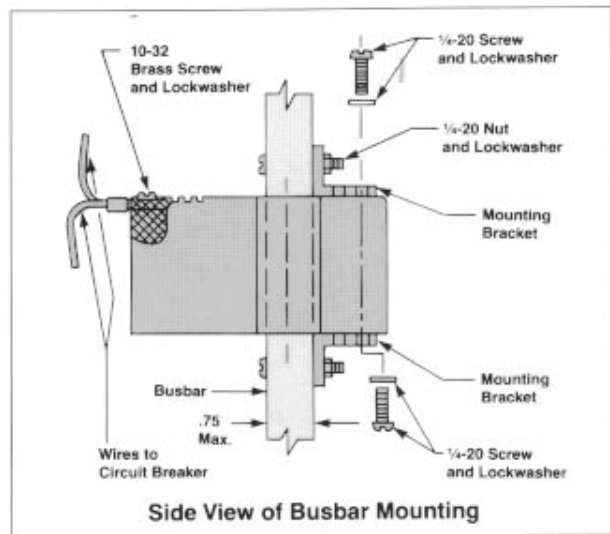

Figure 2
NOTE: Mount screws (3) in direction shown (Figure 2) to maintain electrical spacing.